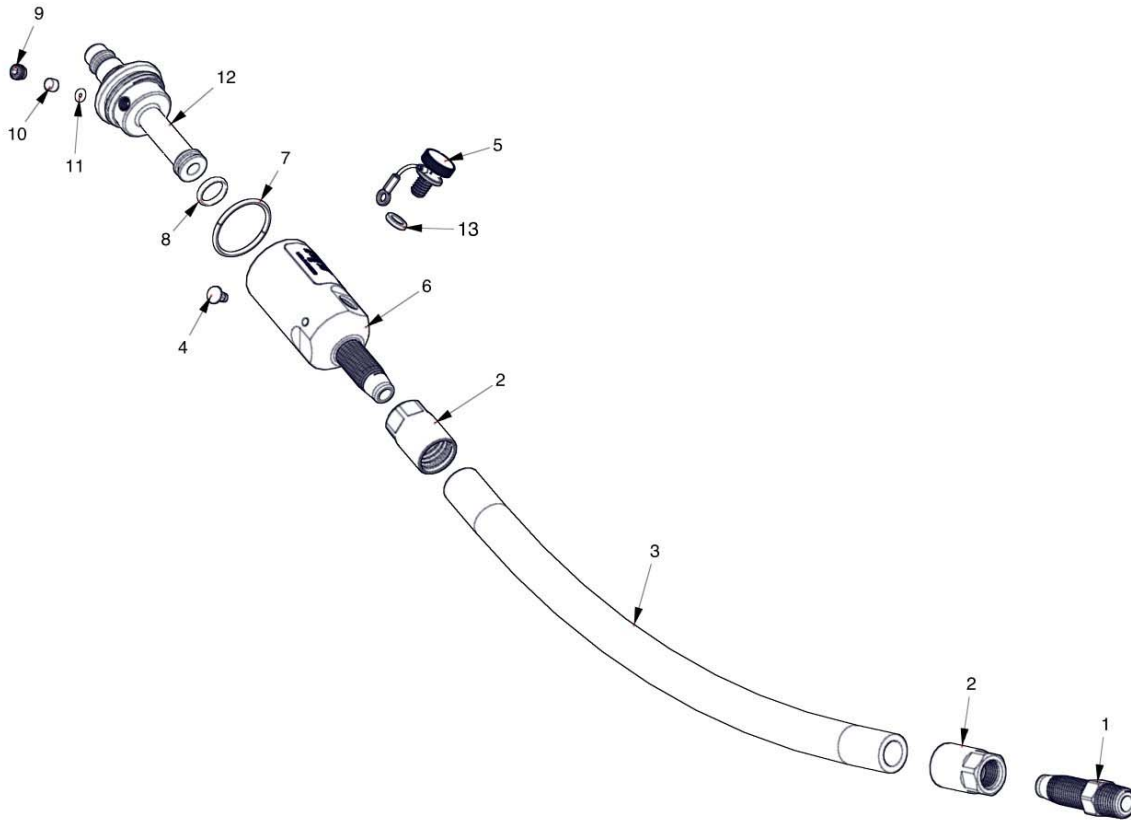

Figure 6-2. Oiler and Hose Assembly, Exploded View
- a. After the oiler and hose assembly has been unscrewed from the Airgun, unscrew connector (1, Figure 6-2) from ferrule.
- b. Only if hose (3) or either ferrule (2) is damaged and necessitates replacement should the ferrules be removed from the hose. If removal is necessary, hold hose firmly and unscrew the ferrule(s) (left hand thread).
- c. Unscrew fill screw (part of full screw and cable assembly) (5) from housing (6) and drain oil from the housing.
- d. If the fill screw and cable assembly are damaged, carefully pry drive screw (4) out of the housing.
- e. Unscrew housing (6) from inlet (12). Remove and discard o-ring seals (7 and 8) only if replacements are available. If replacements are not available and the old seals are worn, cut or otherwise damaged, they may result in oil leakage from between the housing and inlet but must be reused until replacements become available. Inspect the housing and inlet for damaged or worn threads, cracks and other similar damage that may result in oil leakage. Inspect the inlet for wear or damage to the quick disconnect end.
- f. Unscrew filter screw (9), carefully pull out filter disc (10) and o-ring seal (11). Discard the filter disc and o-ring seal only if replacements are available. If replacements are not available the old filter disc and o-ring seal must be reused until replacements become available. Be sure the orifice in the filter disc is clear and not obstructed. Clean as required.